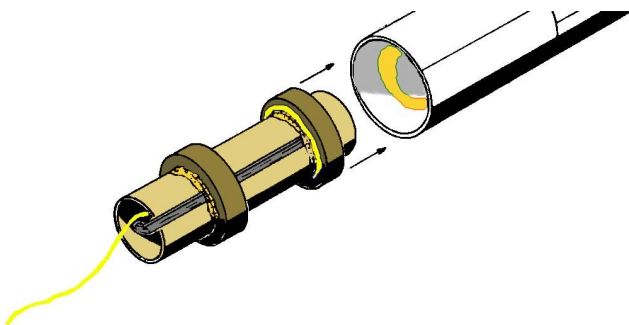

Fig. 6
- **Step 7E** Push the loose end of the Kevlar thread down from the top through the sustainer motor mount and pull tightly. As shown in Fig. 6, apply a generous bead of glue around the inside of the ST-76 body tube, about 1” up from the base of the tube. With a continuous motion, push the motor mount into the main body tube, through the bead of glue, until the base of the motor tube is even with the base of the body tube. Do not pause during this critical step! If you stop before the mount is fully in position, the glue will “freeze” the mount in the wrong place.